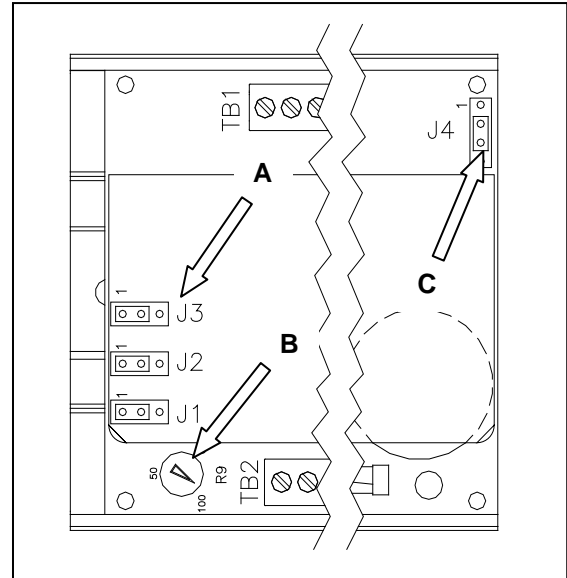

Figure 3-8. TM4500 Configuration
3. Set Jumpers JP1, JP2 and JP3 so that the jumpers covers pins 1 and 2 (Figure 3-8 A)
4. Adjust Kick Current POT (potentiometer) so that arrow points to 100 (Figure 3-8 B).
5. Set jumper JP4 so that the jumper covers pins 2 and 3 (Figure 3-8 C).